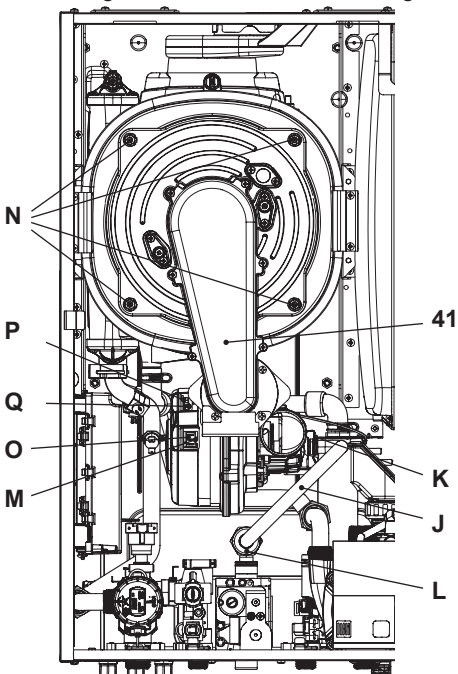

Fig. 9.9
Removing the fan burner unit 41 in Fig. 9.9.
- Insert a flat screwdriver in the connector recess M and lever towards the bottom, disconnect the connector at the same time O by pulling towards the front O (Fig. 9.9).
- Disconnect the fan connector 16 by pressing the plastic hook 17 positioned at the bottom part of the connector (Fig. 9.9).
- Unscrew screws N and remove the fan burner unit 41 (Fig. 9.9)